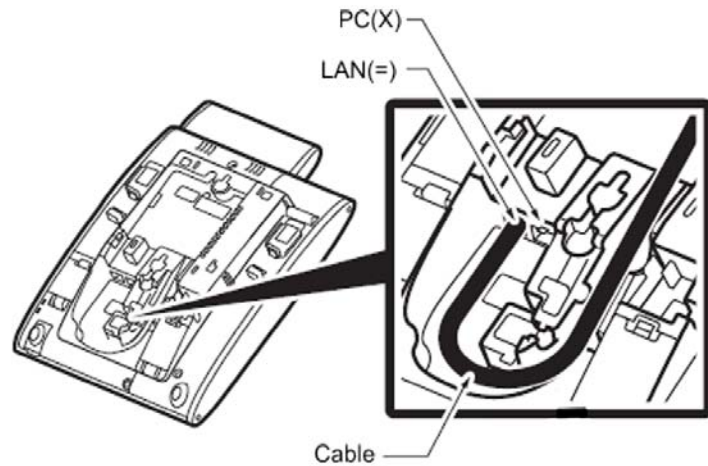

Figure 6-50 Attach the LAN Cable
7. Plug in the LAN cable and gently press the cable into the grooved cutout (refer to Figure 6-50 Attach the LAN Cable).